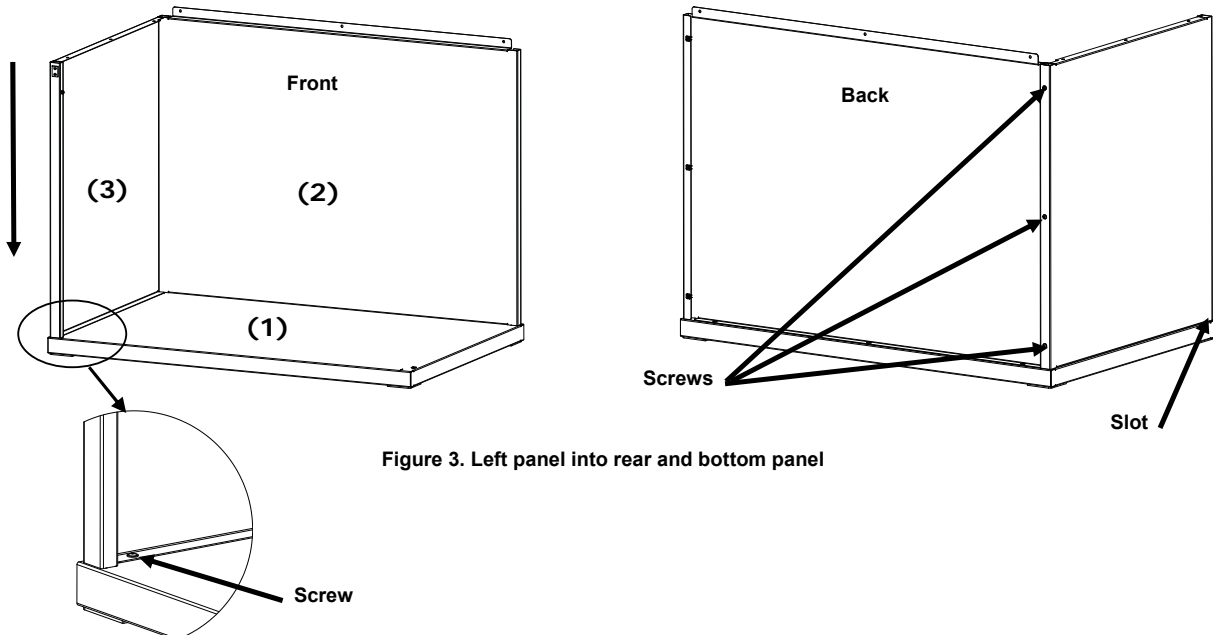

Figure 3. Left panel into rear and bottom panel
3. While supporting the rear panel (2), position the left panel (3) with the smooth side out over the top edge of the rear panel (2).
4. Slide the left panel (3) downward along the interlocking channel until the left panel (3) front tab inserts into the bottom panel (1). Fasten the left panel (3) to the bottom panel and rear panel by securing it with four screws as shown in figure 3.